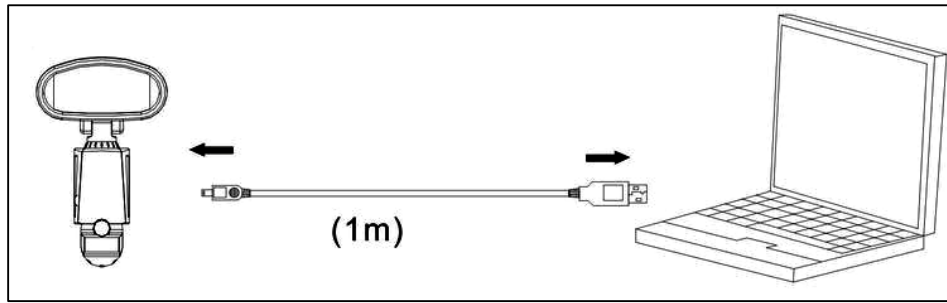

Fig. 12
2. Viewing image from 939ASD (see fig .12)